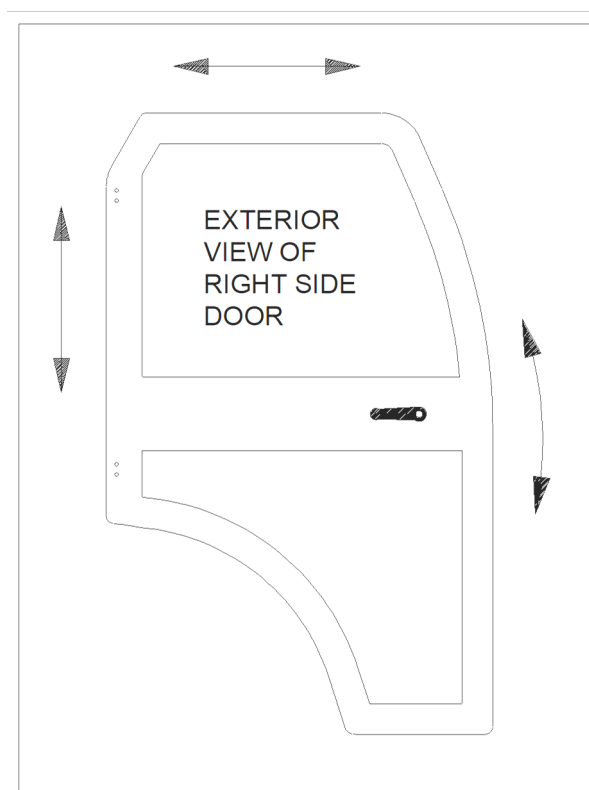

Fig. 14.3 (right side door)
14.3 Per fig. 14.3, the 1/4-20 hex head bolts on the door hinges can be loosened on the rear tube, or on the door itself, or in both places, in order to slightly rotate the door up or down as necessary for proper latch assembly and striker bolt engagement. Note: an assistant will be needed for this step. Keep the hinge sleeves fully seated on the pin hinges. Tighten all hinge bolts using caution to **not** over tighten. Over tightening will crush (damage) the structural tubing. **Torque to 40 inch/pounds.**